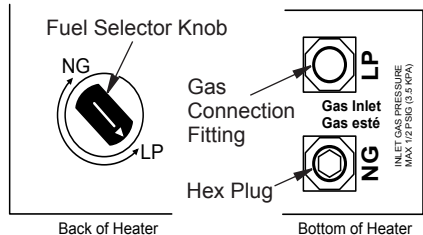

Figure 16 - Settings for Propane/LP Gas Selection
1. Remove top screw from cover plate located on back of heater (see Figure 16). Rotate to expose fuel selection device.
2. For propane gas, press in knob using a flat screwdriver with a blade the thickness of a quarter and turn knob counterclockwise until the knob locks into the LP position (see Figure 16). Fuel selection device must be locked in the LP position. Do not operate heater between locked positions!
4. Remove hex plug (with wrench provided) from propane/LP inlet of regulator (see Figure 16). Install hex plug into NG inlet of regulator. Install gas line into propane/LP inlet of regulator. Use thread sealant to assure there are no leaks.